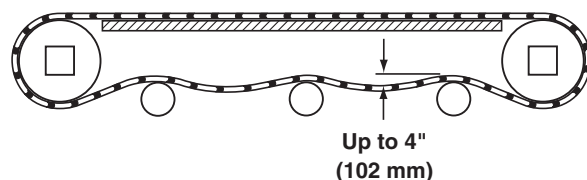

Figure 44
4. Check belt sag by measuring from the top of the return (Figure 44). Belt sag should not exceed 4" (102 mm). Follow steps 7 – 9 in the "Belt Installation" section on page 14 to remove slack from the belt.